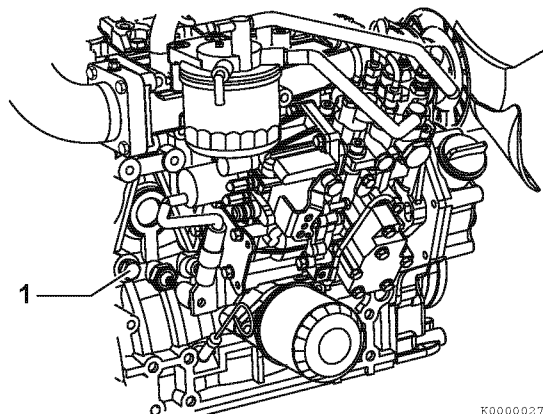

Figure 24
- On models not equipped with an oil cooler, remove the coolant drain plug (1, **Figure 24**) from the engine block.